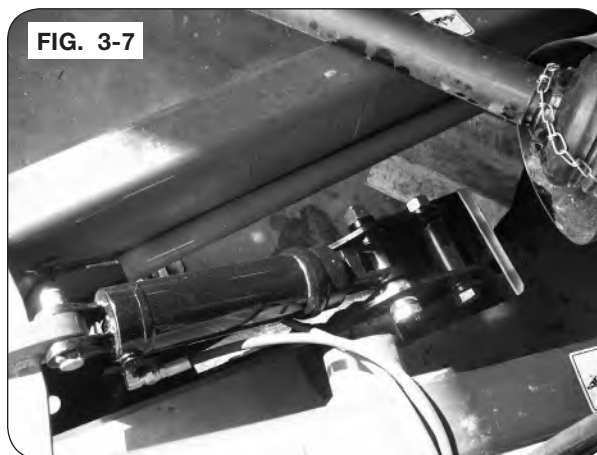

FIG. 3-7
- After cart is hitched to tractor, attach hydraulic hoses to tractor and retract hydraulic cylinder to store hydraulic jack between the frame rails. (FIG. 3-7)